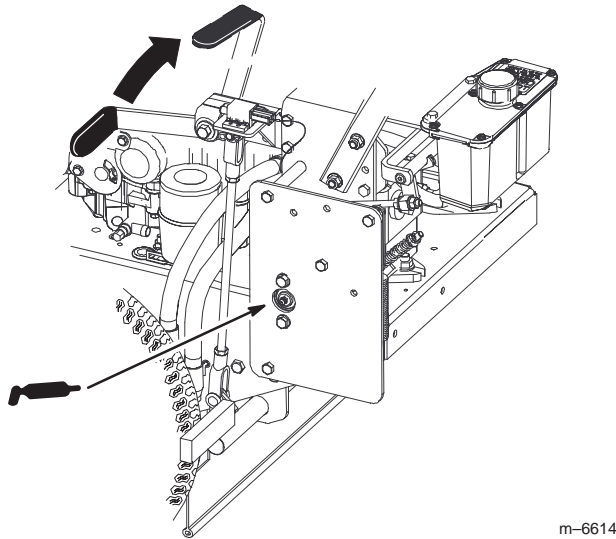

Figure 39
2. Grease the bearings on both sides of the machine (Fig. 39).